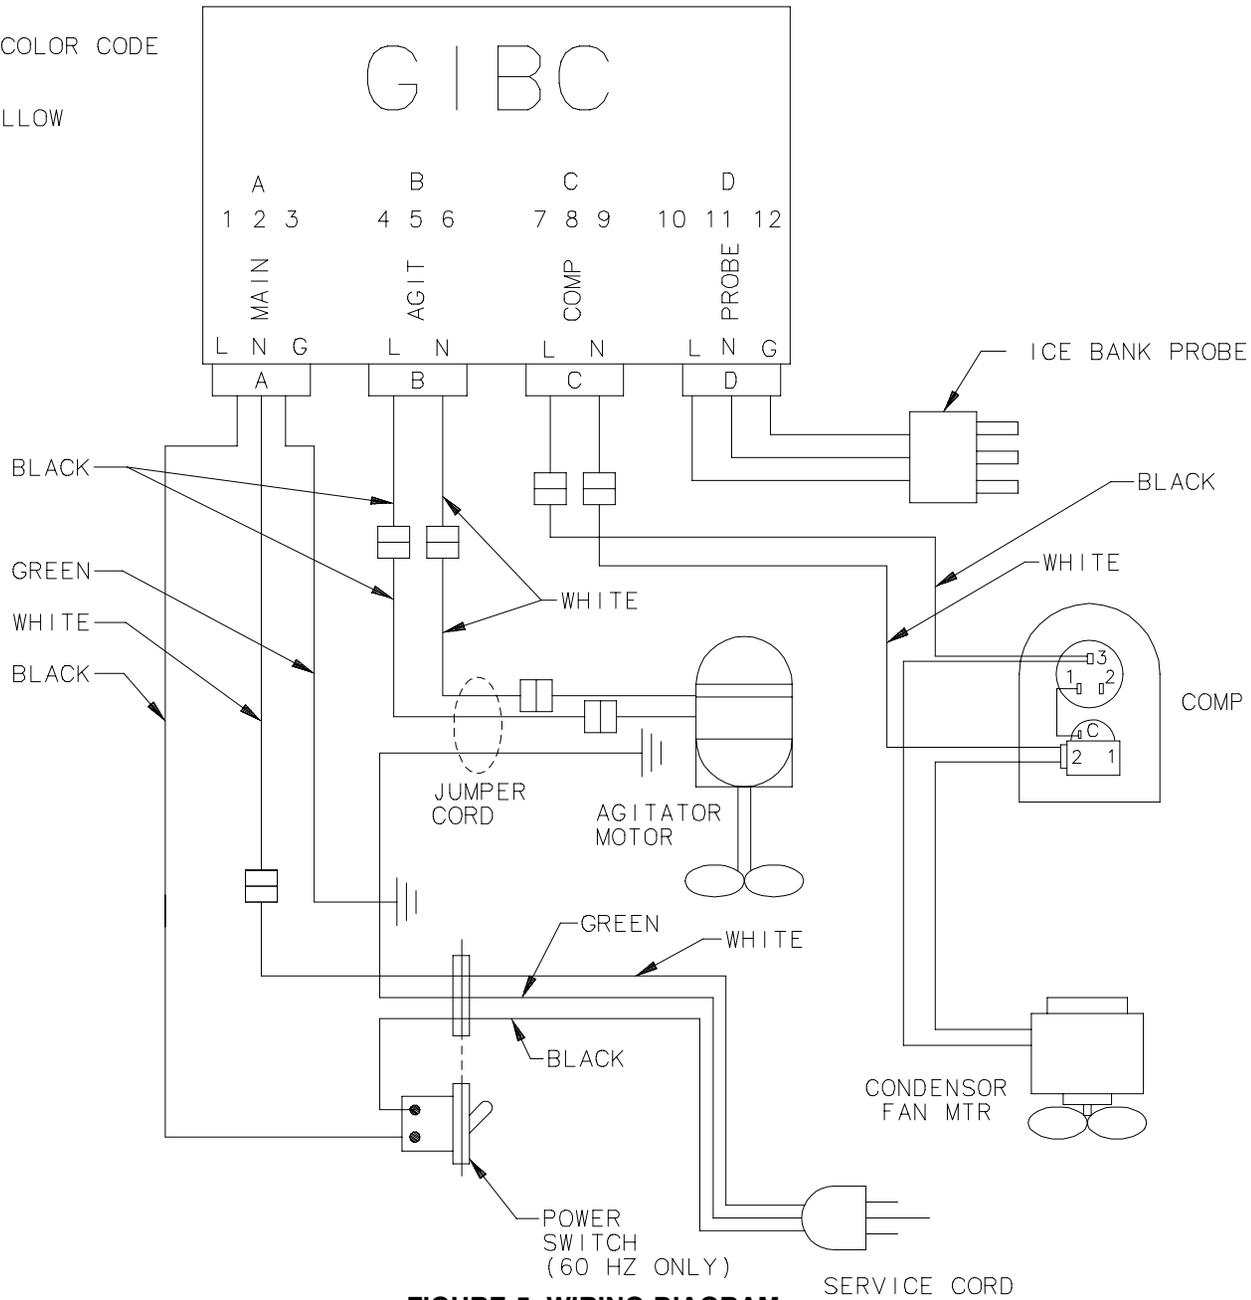

FIGURE 5. WIRING DIAGRAM
NOTE: Refer to WIRING DIAGRAM (see Figure 5) when making wiring electrical connections. Note that the large black electrical connectors on the loose-shipped wiring harnesses are labeled "A", "B", and "C" and large connector on end of the ice bank control probe is labeled "D". Also note that the terminals on the new ice bank control module are labeled "A", "B", "C" and "D".
22. Refer to wiring diagram (see Figure 5) and make all of the electrical wire connections.
23. Plug ice bank control probe black electrical connector labeled "D" into mating connector labeled "D" on the new ICE BANK CONTROL MODULE (item 1).
24. Make all of the wiring connections to the large black electrical connectors labeled "A", "B", and "C" and the unit power switch as indicated in wiring diagram (see Figure 5).